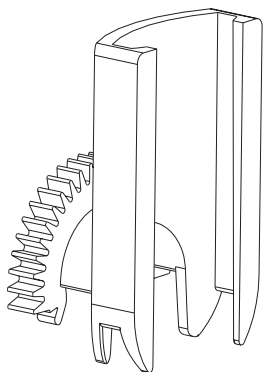

Figure 8: Antenna Shroud
- 8 Attach the antenna shrouds (Altitude 300-2i™) - If the plastic cover is going to be used attach the antenna shrouds to the antennas, see Figure 8: Antenna Shroud on page 22.